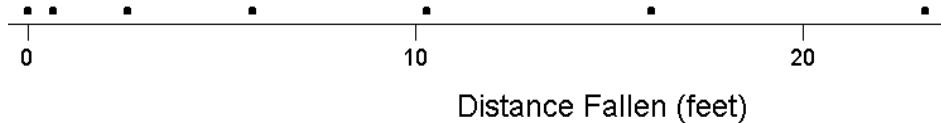

FIGURE 8.1. Stroboscopic Position of Falling Ball in $\Delta t = 0.2s$ Intervals
5. Figure 8.1 shows the position of a dropped ball in feet as imaged by a stroboscope with a $0.2s$ strobe interval. Extract data from the figure and plot the distance fallen h versus the total elapsed time t . Note that the relationship is not linear. Physics predicts that the relationship between h and t is $h = \frac{1}{2}gt^2$ where $g = 32.15\text{ft/s}^2$ is the acceleration of gravity at the surface of the earth.